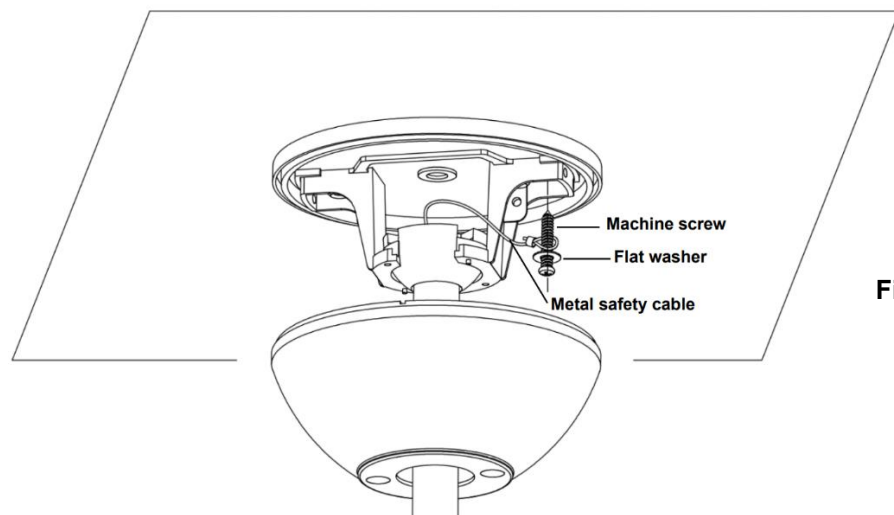

Fig. 10
7. Installed the metal safety cable into the house structure beams using the machine screws and flat washer which provided, make sure that when the safety cable is fully extended the lead wires are longer than the cable and no stress is placed on the lead wires. (Fig. 10)